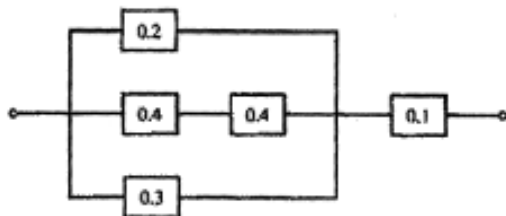

Fig. 1
- b) The relay network shown in fig. 1 operates if and only if there is a closed path of relays from left to right. Assume that the relay fails independently and that probability of failure of each relay as shown. What is the probability that the relay network operates ? 5